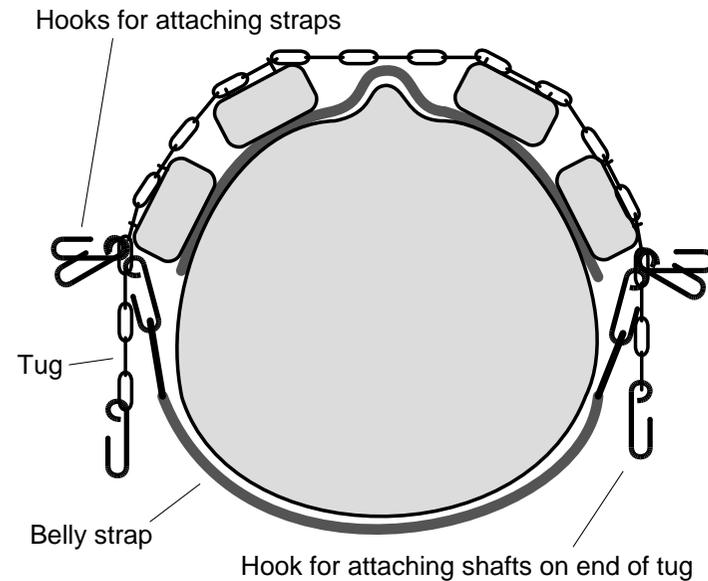

Figure 7: arrangement of attachment hooks for straps and shafts on saddle chain.
- 6) If you are going to use belly, breeching and breast straps for cart use, make up six more of these hooks and fit one to the chain between the wooden blocks on each side, and one to the chain just below the lower wooden blocks, as shown in Figure 7.